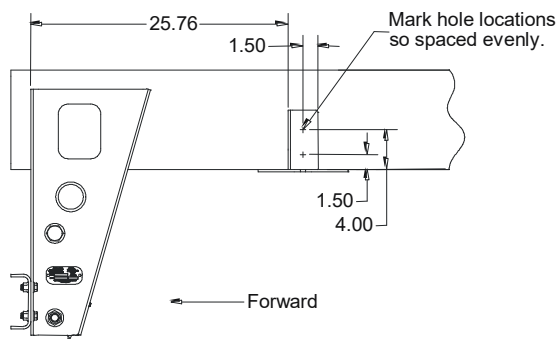

Figure 12
2. With the upper air spring mount tight against the frame, mark the location of the mounting holes. Center punch each mark. (See Figure 12 and 13.)